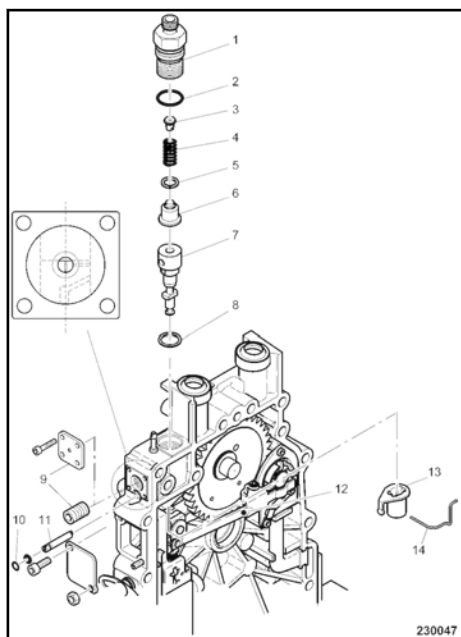
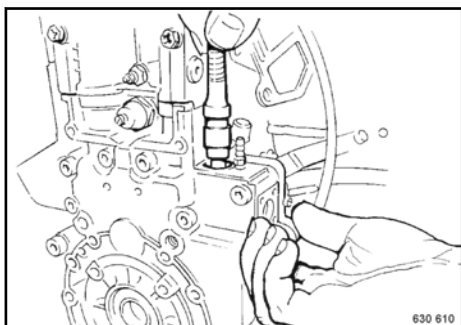

Fig. 98
Fig. 99
Assemble shim (8) ↪ Fig. 98.
Insert the pump element ↪ Fig. 99, observe correct positioning of the suction hole (tapered bore) ↪ Fig. 98 and element flag (the number with 400 or 4 belongs to the side that should be opposite the suction hole).
When inserting the element group make sure that the plunger flag also is inserted through the control sleeve (is achieved by turning the regulating sleeve slightly to and fro) and that the eccentric peg (11) also engages in the groove of the element cylinder ↪ Fig. 98.